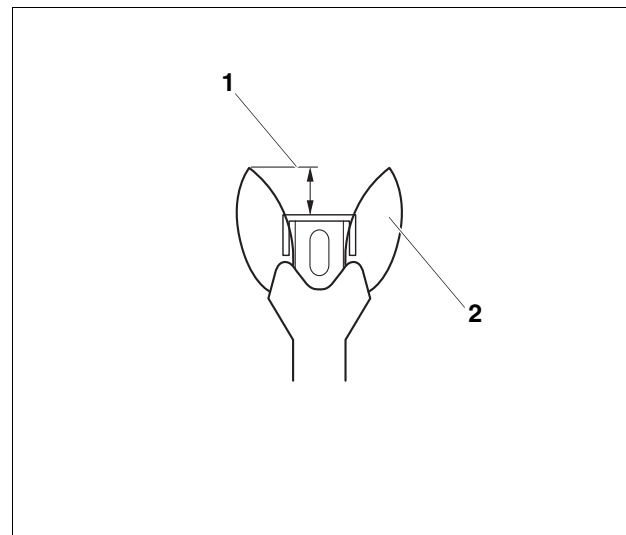
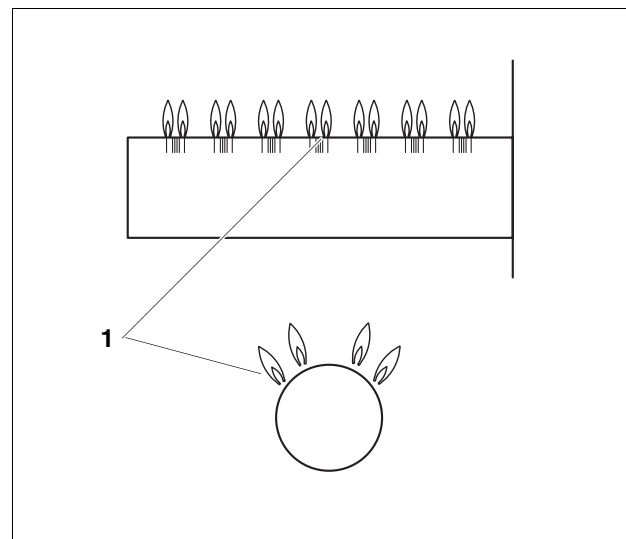

Fig. 12 Correct pilot flame setting
Fig. 13 Main burner
21. Test the safety switch by closing the gas shut-off valve. The main burner flame (→ Fig. 13) and the pilot flame (→ Fig. 12) are extinguished. After six (6) seconds at the most the main gas solenoid valve on the gas valve must close with an audible noise.